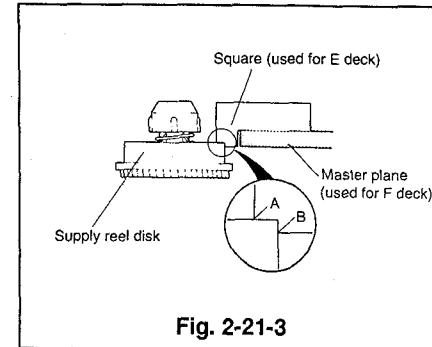

Fig. 2-21-3
- ③ Place the height adjusting jig [square] (used for E deck; Part No.859C341070) on the jig, previously installed placed in Item ④, as shown in Fig. 2-21-3. Make sure that the height is correct (between A and B).
- ④ Adjust the height of the supply reel disk by varying the number of the washers (Part No.552C017O20) under the disk.